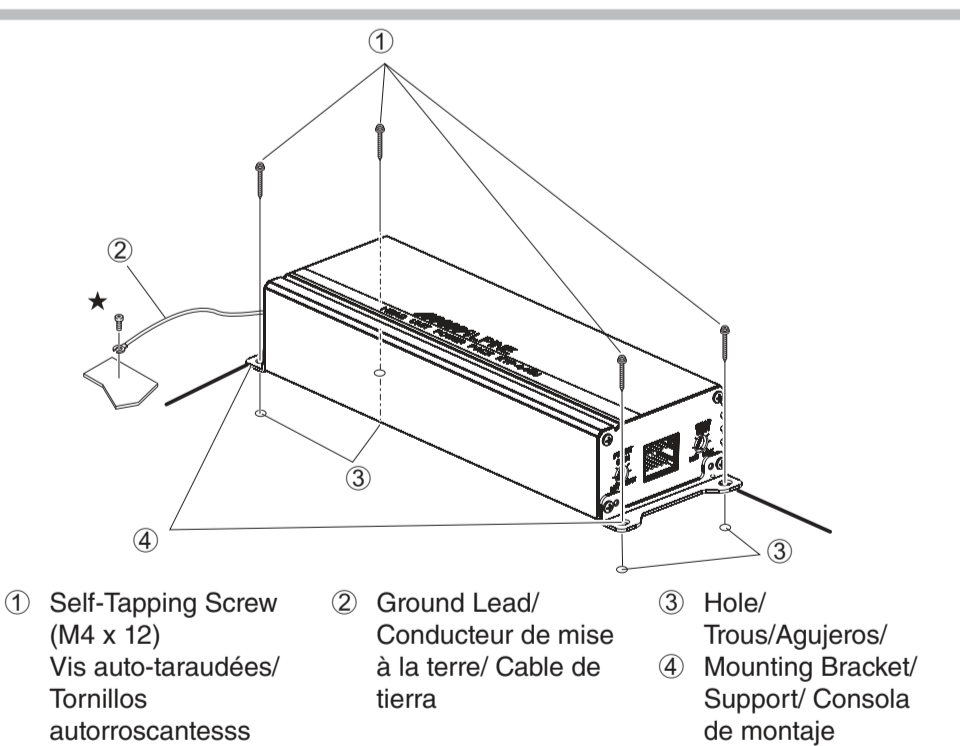
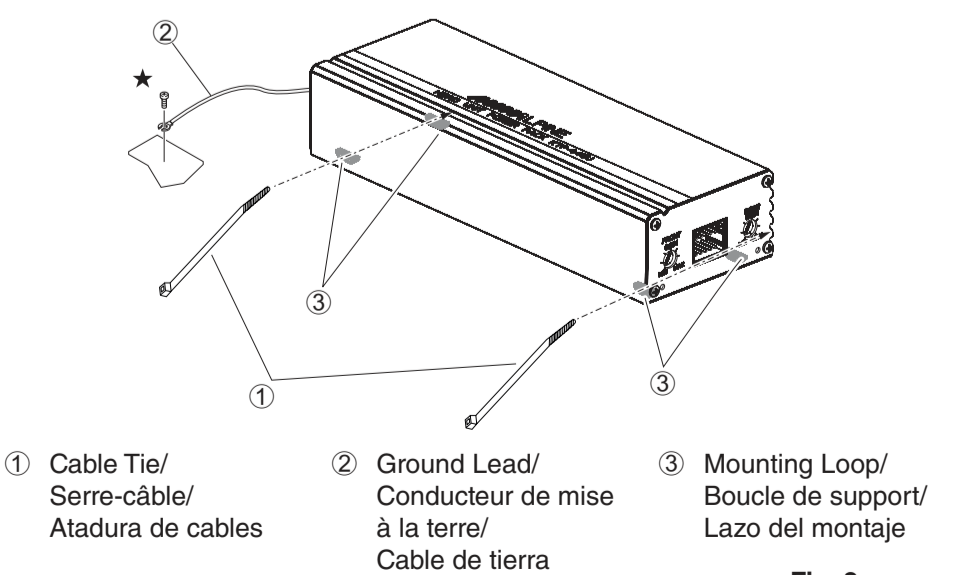

Fig. 1
Fig. 2
## INSTALLATION (Fig. 1 and Fig. 2)
8. Fasten the unit down with the four self-tapping screws (M4 x 12). Refer to Fig. 1.
2. Use the cable ties to securely attach the amplifier to the vehicle's frame or chassis. Refer to Fig. 2.
## INSTALLATION (Fig. 1 - Fig. 2)
7. Fixez l'unité à l'aide des quatre vis auto-taraudées (M4 x 36, fournies). Reportez-vous à la Fig. 2.